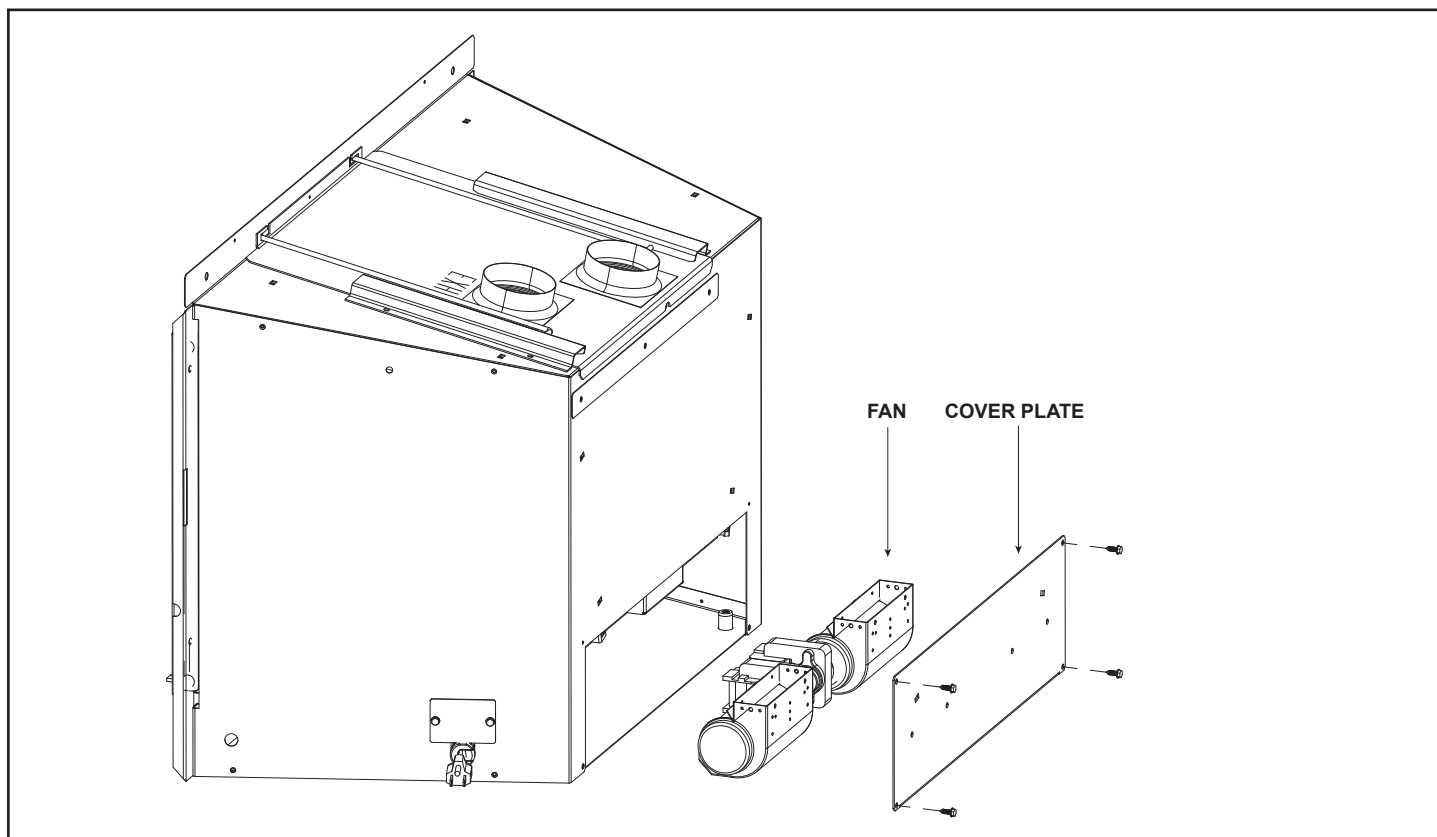

Figure 10.5
- Remove the four screws on the cover plate (see Figure 10.5).
- Install and wire the fan per instruction shipped with the fan. Figure 10.5 also shows a wiring diagram. Models NDI30-C, NDI30-SP, NDI35-C and NDI35-SP include a rheostat and temperature sensor when the optional fan kit is installed.